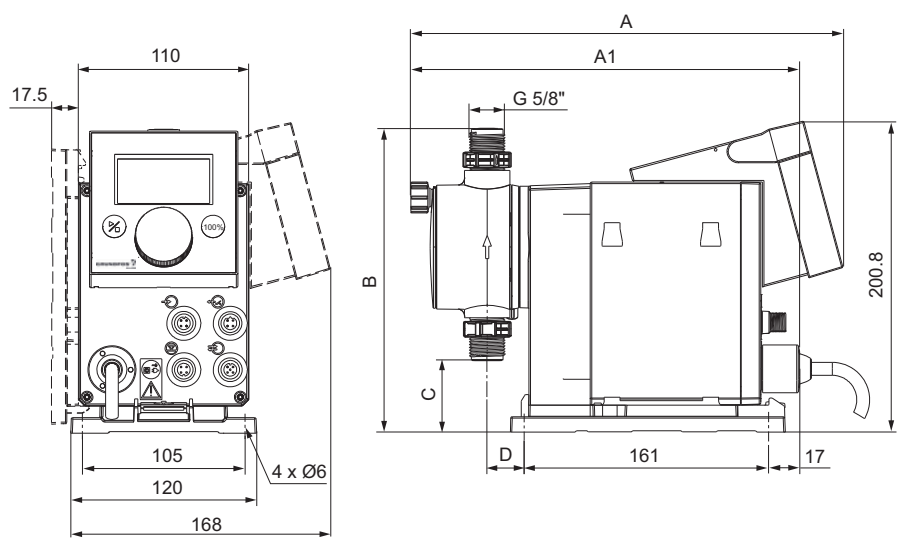

Fig. 4 Dimensional drawing
- The mounting plate can be used as a drill template, please see fig. 4 for drill hole distances.